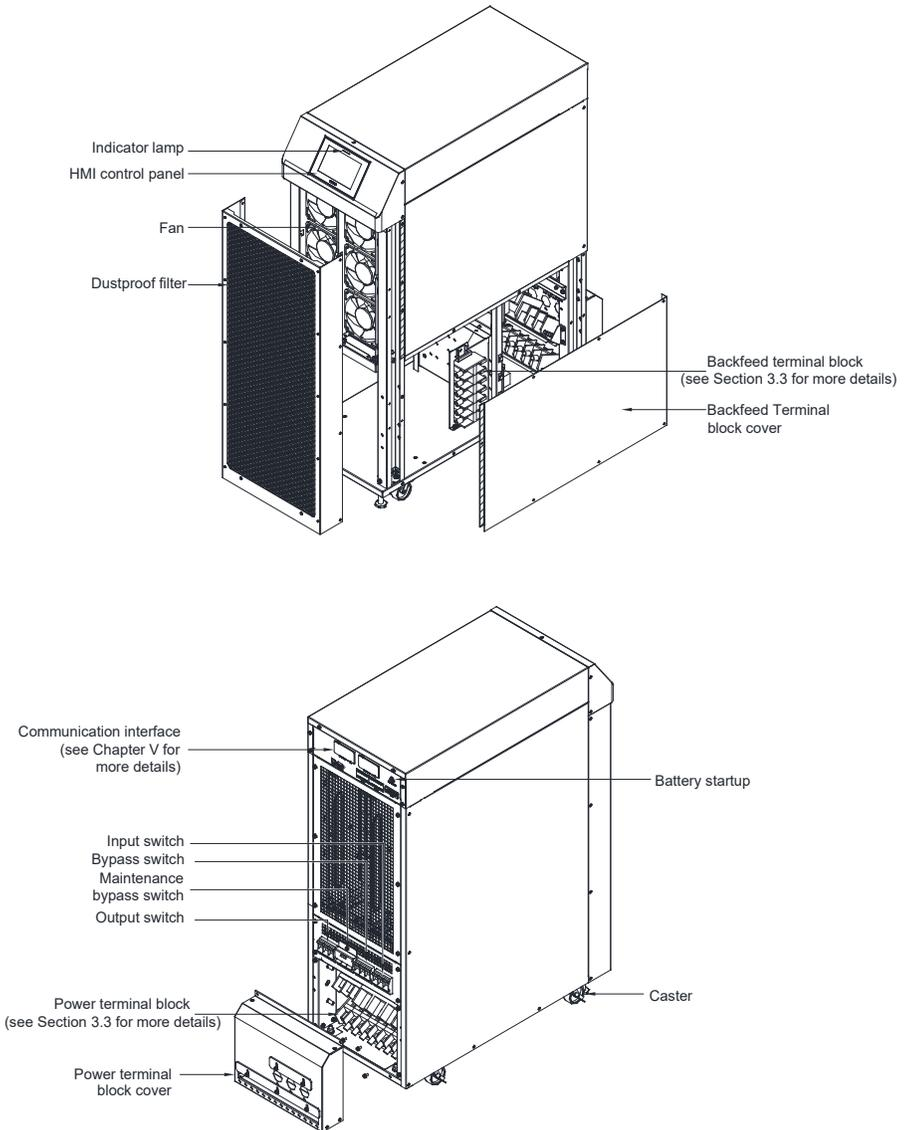

Figure 2-5: 60-80K structure diagram
2. Uninstall the right side cover plate of the UPS, refer to (Figure 2-3/Figure 2-5)